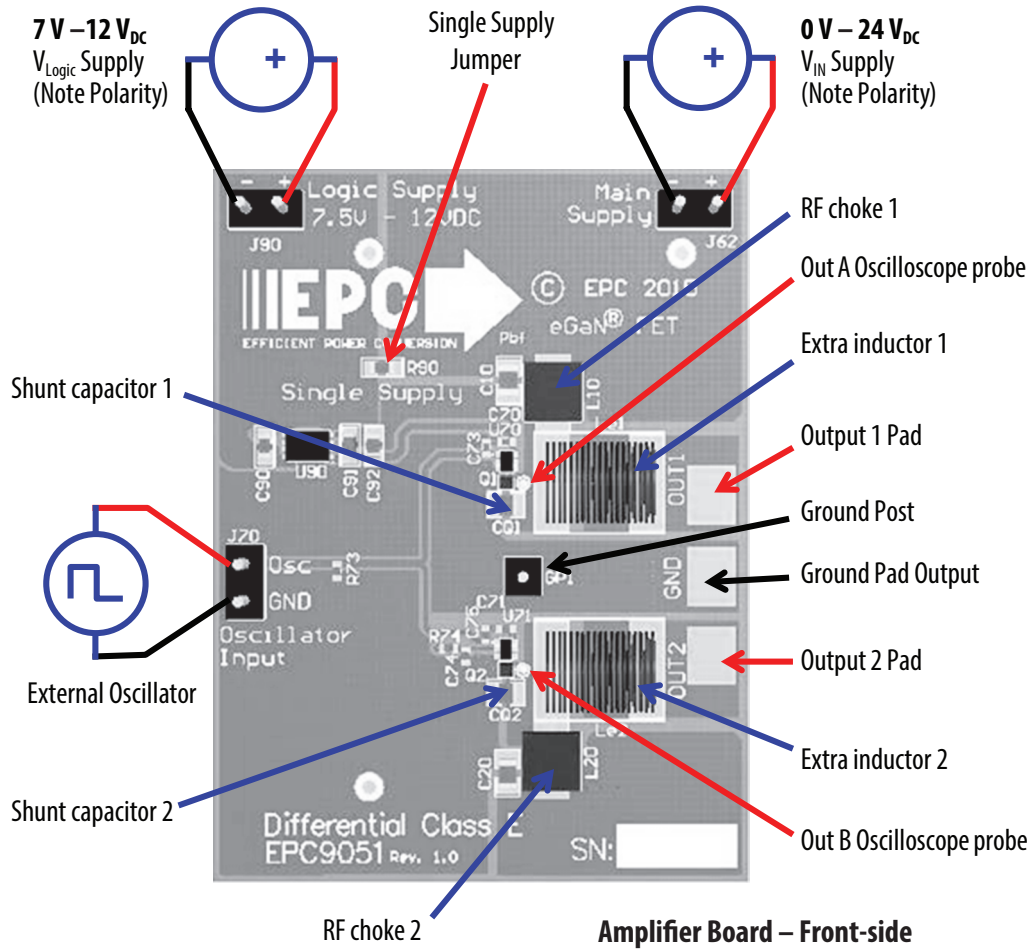

Figure 5: Proper connection and measurement setup for the amplifier board.
2. With power off, connect the main input power supply bus to J62 as shown in figure 5. Note the polarity of the supply connector. Set the voltage to 0 V.
3. With power off, connect the logic input power supply bus to J90 as shown in figure 5. Note the polarity of the supply connector. Set the voltage to between 7 V and 12 V.
NOTE. When measuring the high frequency content switch-node, care must be taken to avoid long ground leads. An oscilloscope probe connection (preferred method) has been built into the board to simplify the measurement of the Drain-Source Voltage (shown in figure 5 and figure 6). The choice of oscilloscope probe needs to consider tip capacitance where this will appear in parallel with the shunt capacitance thereby altering the operating point of the amplifier.